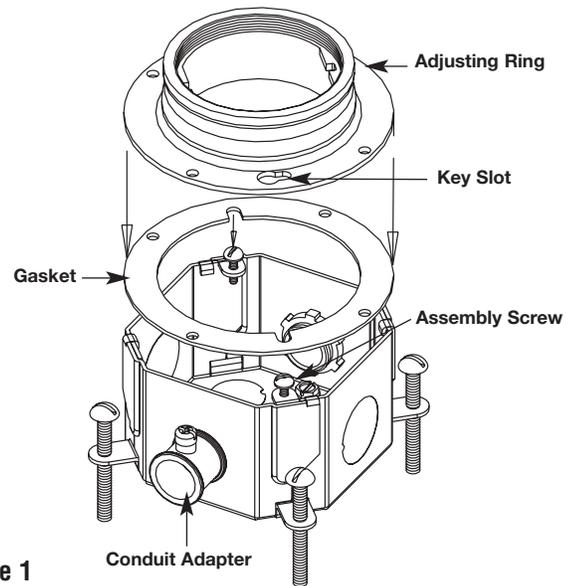

Figure 1
1. Determine box and conduit layout. Remove required knockout(s) or plug(s). Attach proper conduit adapters (not supplied by Walker) to steel base (see Figure 1).
2. Slip gasket over box assembly screws. Attach adjusting ring over box. Align key slot with assembly screws and fasten ring to box. Turn ring to lock in place and tighten screws (see Figure 1).